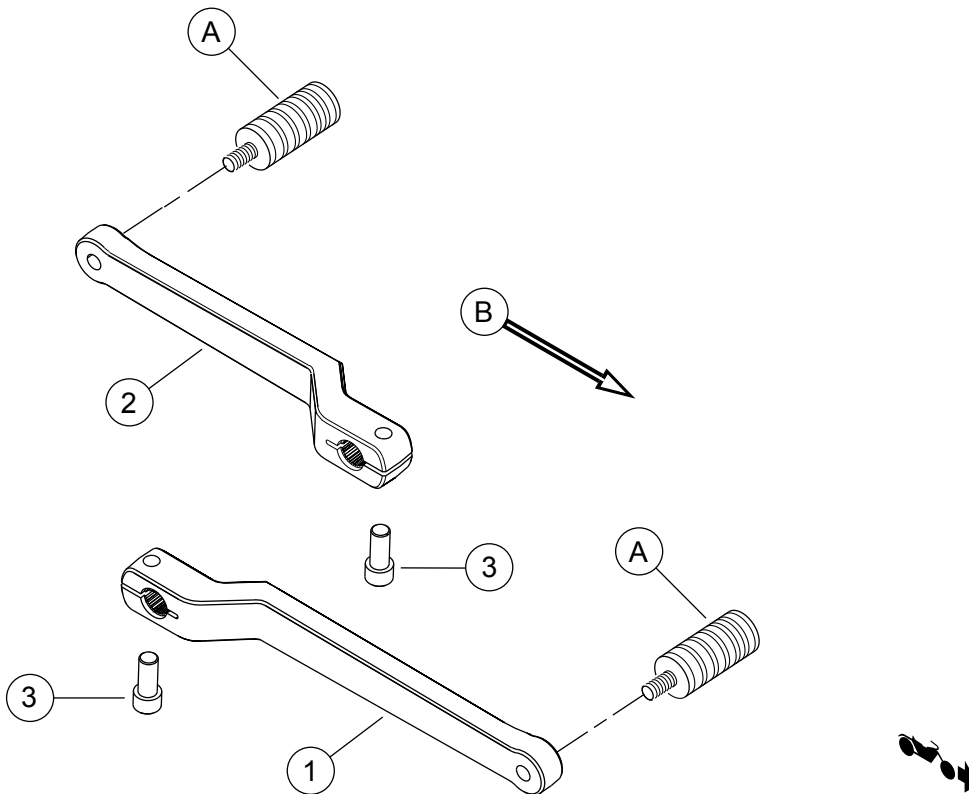

Figure 1. Service Parts: Shift Lever Kit (Generic Shown)
See Figure 1 and Table 1.
- Original Equipment (OE) shift levers are installed from the top or bottom, depending on the model motorcycle.
1. See Figure 1. Remove OE shifter pegs (A) and retain for installation to new levers if desired.
2. Remove socket head screws (3).